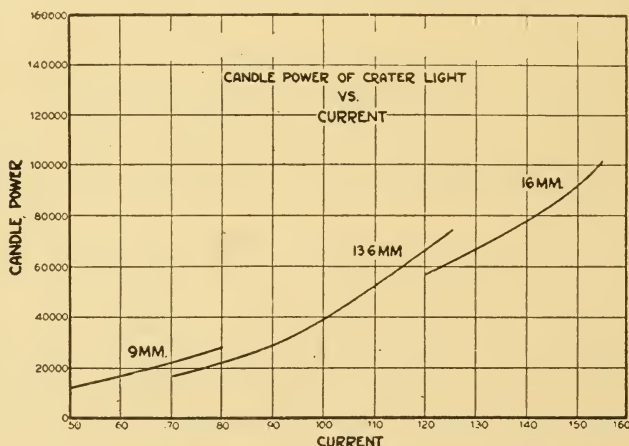

FIG. 86.—Graph shows the candle power of light production compared with the flow of current.
(36) Fig. 86 illustrates a correct high intensity arc adjustment. (37) It is unsafe to be guided wholly by arc voltage in handling the high intensity arc. (38) The light itself is presumed to emanate from the chemicalized incandescent gases contained in the crater. The action is not yet fully understood, (39) but the light brilliancy is far greater than the brilliancy obtainable by carbon incandescence at volatilization temperature.
(40) The crater must be kept filled with this gas at all times. If the gas were not confined in the crater it would flow out freely and the high intensity effect would be almost wholly lost.
(41) The confining agency is none other than the stream of electrons emanating from the negative car-
bon, ordinarily termed the negative gas stream or "flame." It performs its work well only when negative carbon tip is located at exactly the right point, as illustrated in Figs. 86 and 87.